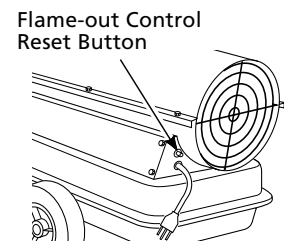

Figure 5 - Flame-out Control Reset Button
5. Plug extension cord into standard 120 volt/60 hertz, three-hole, grounded outlet. Adjust thermostat to desired setting. If heater does not start, thermostat setting may be too low. Turn thermostat knob to higher position to start heater. If thermostat is in HIGH position and heater still will not start, push in flame-out control reset button (See Figure 5).